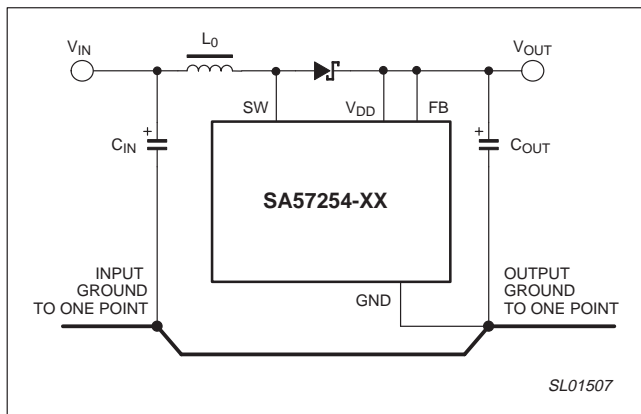

Figure 30. Grounding trace for converter.
The input and output capacitors are the only source or sink of the high frequency currents found in a switching power supply. All connections to the switching power supply from the outside circuits should be made to the input or output capacitor terminals (+ and –). Internally, the layout should adhere to a “one-point” grounding system, as shown in Figure 30.
- Strictly adhere to the one-point wiring practices shown in Figure 30.